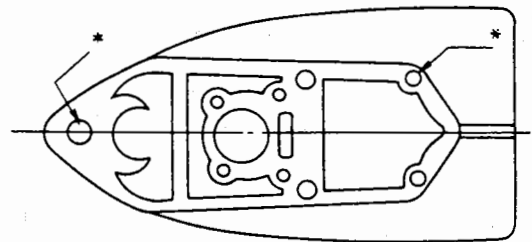

Fig. 78 Gear case
- 1) When installing the drive shaft housing be sure to apply grease to the gear case mounting bolt. First install * marked parts. (Fig. 78)